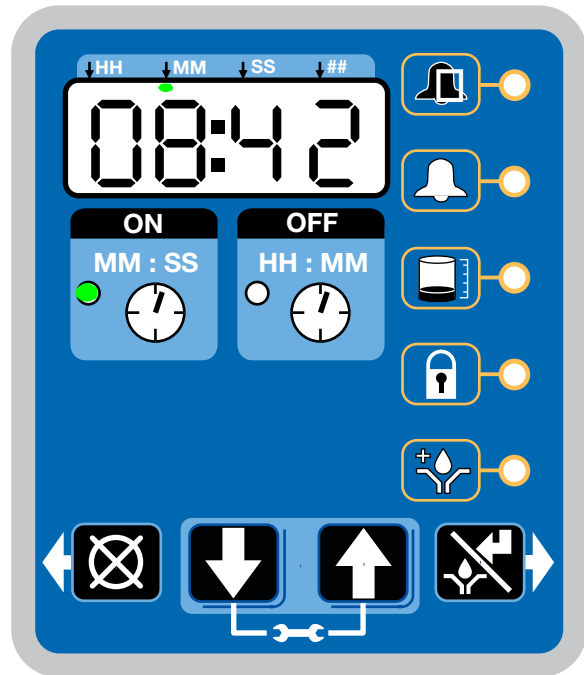

FIG. 34
- When the OFF Time count reaches zero, the G3 Automatic Lubrication Pump turns the pump on and it runs for the programmed ON Time cycle (FIG. 34).
- The example shown in FIG. 34 shows an ON Time of 8 minutes and 42 seconds before the lubrication cycle ends.